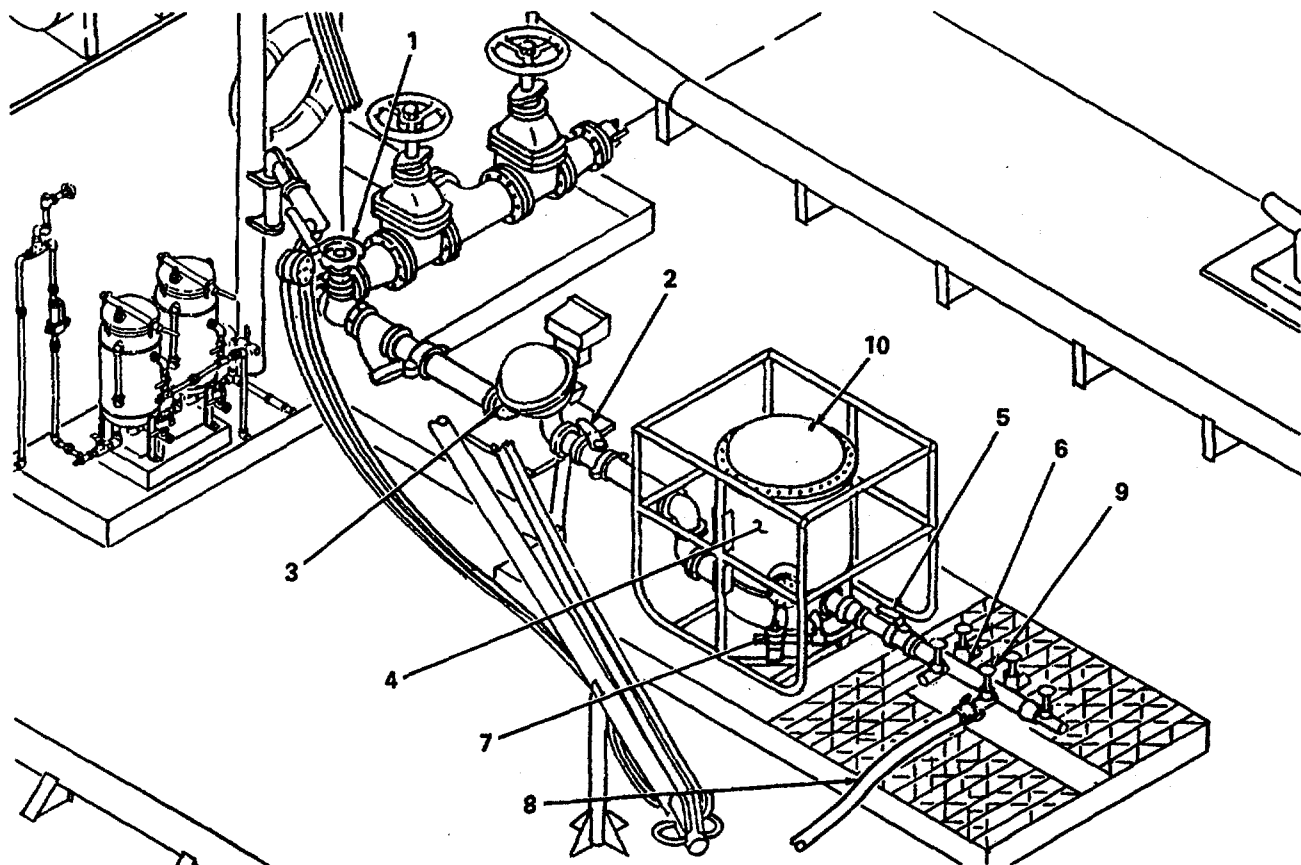

Figure 2-14. Above-Deck Cargo Transfer Piping Valve Positions During Refueling Operations.
- 1 On gate valve (1, figure 2-14) to permit fuel to flow from riser discharge into on-deck components.
- 2 Open butterfly valve (2) between flow meter (3) and fuel/water separator (4).
- 3 Open butterfly valve (5) between fuel/water separator (4) and cargo manifold (6).
- 4 Open gate valve (7) on fuel/water separator (4) to allow water that collects in separator to be automatically discharged into containment trough.
- 5 Connect fuel hose and nozzle assembly (8) to selected cargo manifold discharge valve (9) and open valve.
- 6 Open air vent valve (10) on top of fuel/water separator (4).
Fuel can be dispensed through hose nozzle or in some cases through a direct connection between fuel hose and fuel tank filler. If nozzle is not used, fuel flow can be controlled from flow meter inlet valve (1, figure 2-14).